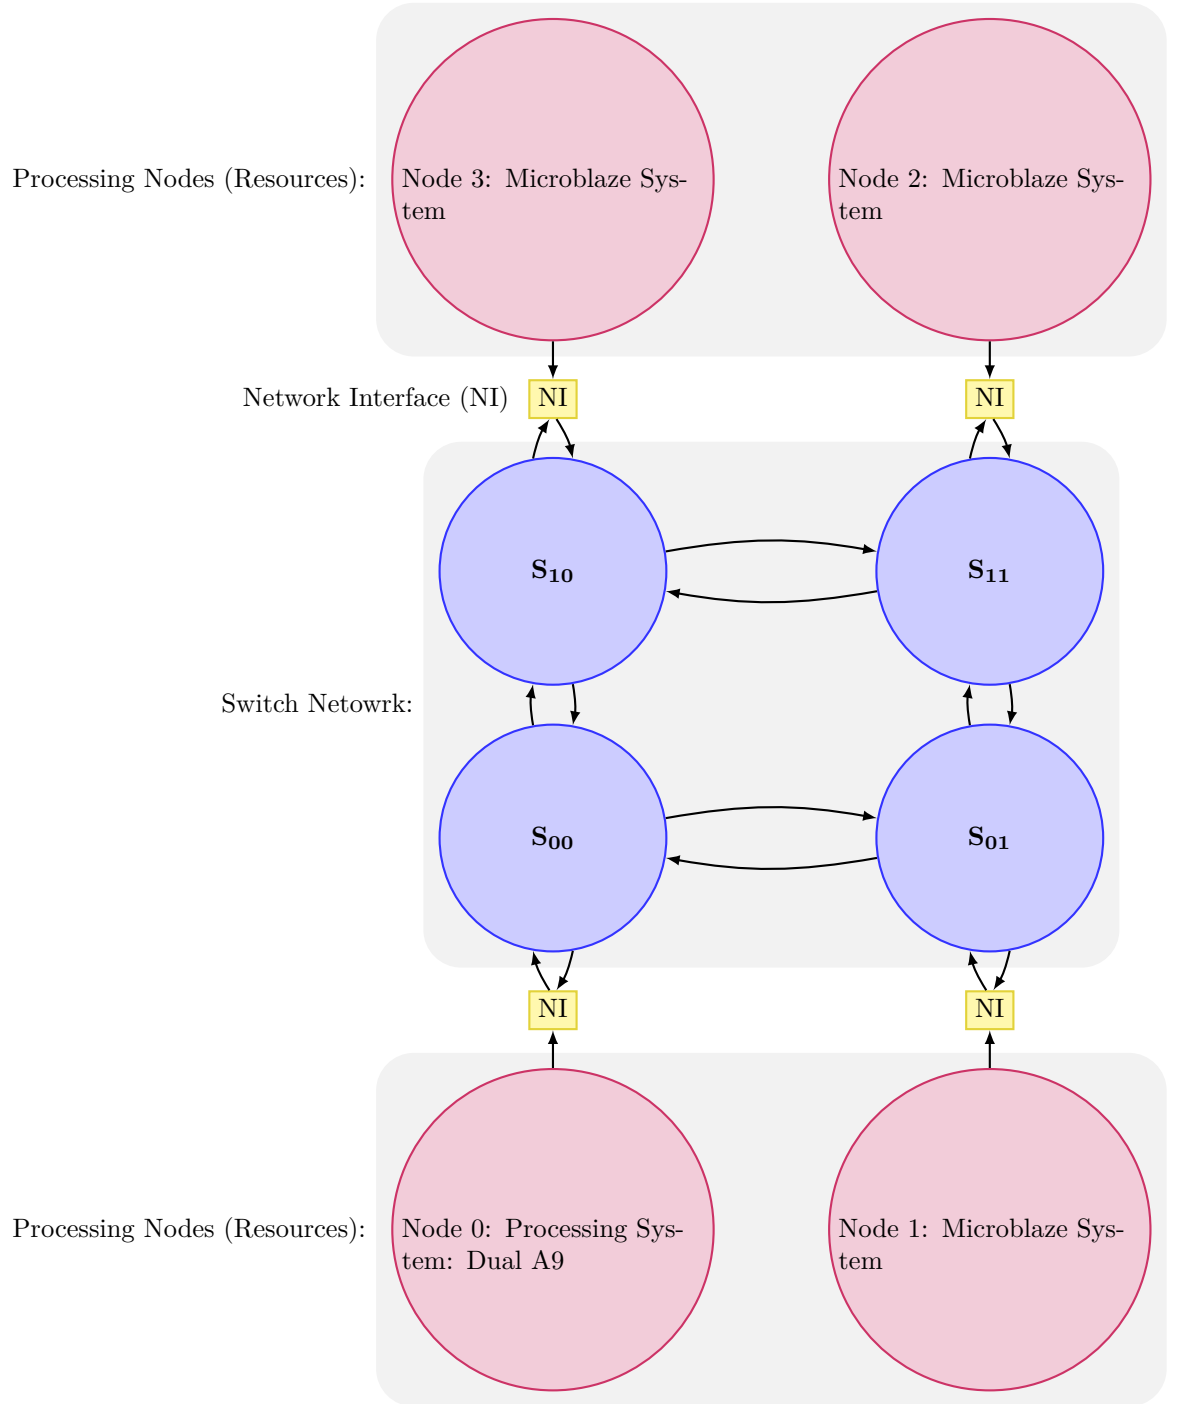

Figure 1: Block Diagram of Network-on-Chip Based MPSoC Depicting Network Interfaces and Switch Network for 2x2 Mesh Type Nostrum NoC and Processing Nodes
The main elements of the system are switches connected in a 2x2 mesh topology and interfaced to processing nodes through network interfaces (NI). A block diagram illustrating the system can be seen in Fig. 1. The figure depicts four resources or nodes which are either microblaze systems or dual cortex A9 processor, connected to a structure of switches array each is denoted by Sxx via network interfaces (NI).